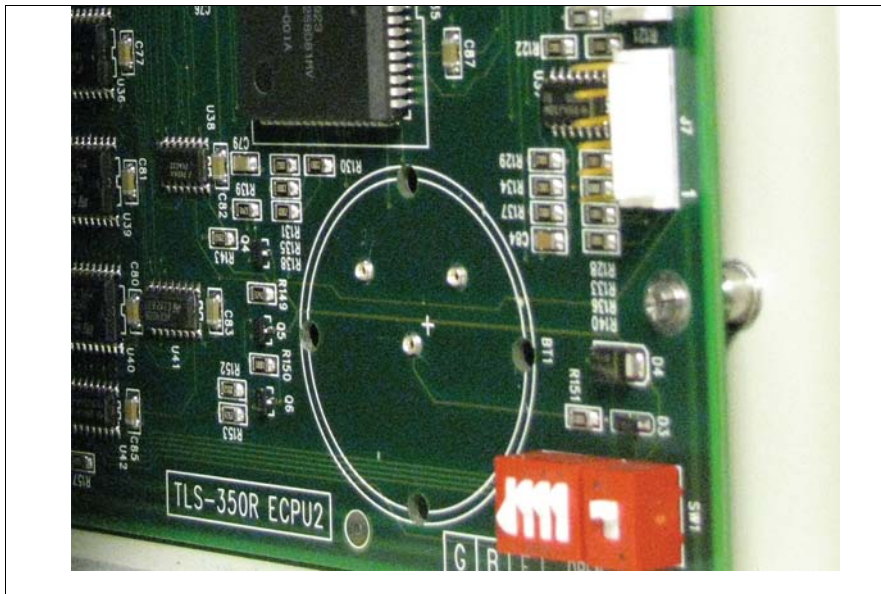

Figure 12. Install New Battery
11. Install new battery (see Figure 12).